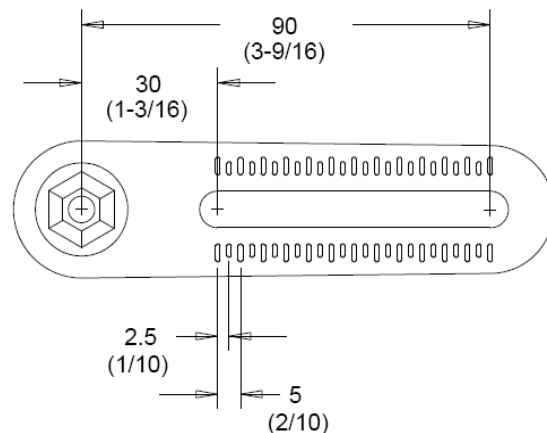

Figure 6: Crankarm dimensions
- d. See Figure 6 for the crankarm slot dimensions.